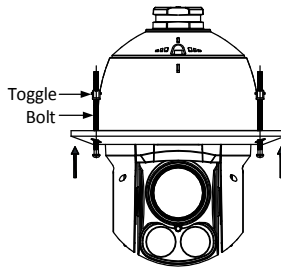

Figure 1-26 Install Toggle Bolts
- 4). Reinstall the toggles as shown in Figure 1-26.